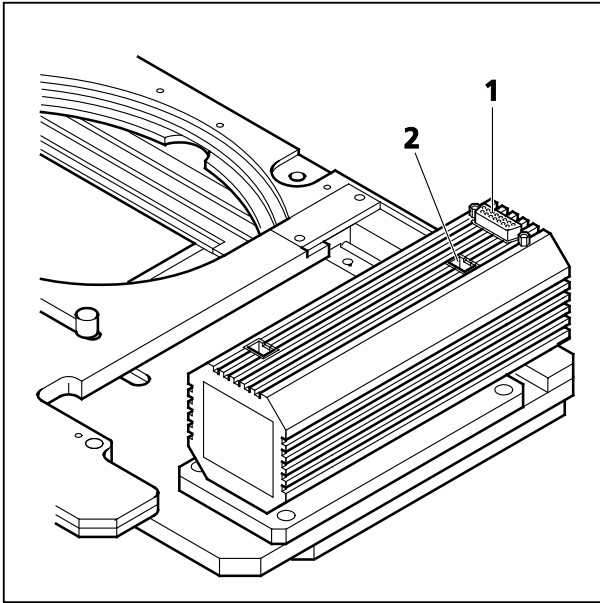

Fig. 3-10 Terminals on the Underside of the Scanning Stage
- Once the stage has been mounted on the microscope stand, plug in the connection cables to the XY drive (Fig. 3-10/1) and to the PC (Fig. 3-10/2).